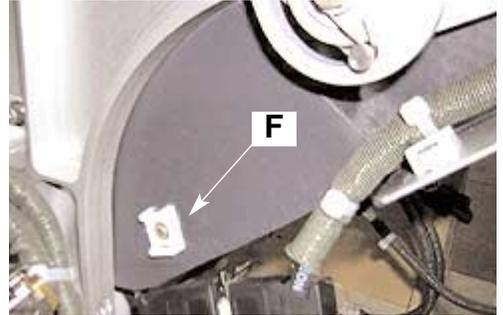

FIG. 307E:
- (7) Finally, remove rear plate (600)(610) by means of six screws (620) (see IPL Fig. 4 sheet 1 of 3). Remove also plastic clamp support (F) by means of its attaching screw from both sides (see fig. 307E), so to permit CNT arm rest to be slid forward and removed.